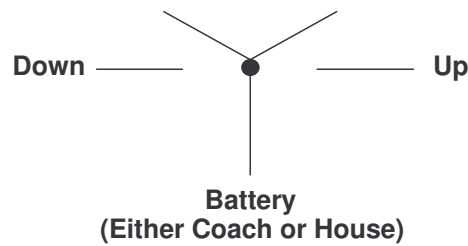

Figure 2 **Rocker Switch**
- 2 Figure 2 Shows the wiring of the rocker switches.
Wire rocker switches as shown in Figure 2. Switches can be either single pole double throw (SPDT) or double pole double throw (DPDT) momentary on switches.